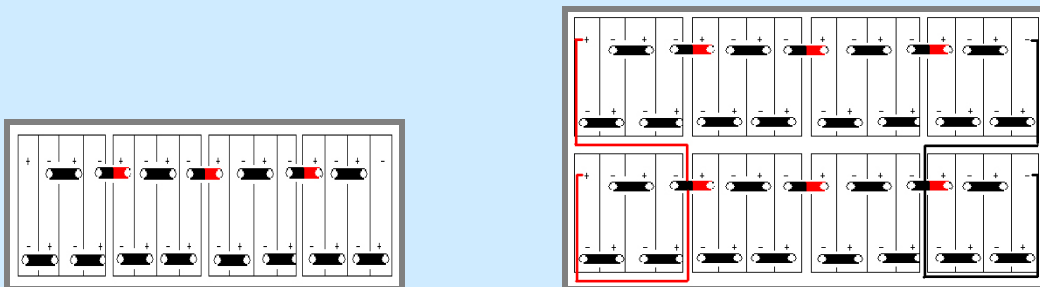

Figure 2: Connection of one row batteries (2KWH)
10. Wiring: Pull off the protection cap of the battery terminals (positive and negative) between two battery packs, use red / black short jumper cable to put them in series as shown in Figure 2. If it is a 4KWH model, connect two strings of the 2KWH battery packs in parallel (positive to positive, negative to negative terminals); Connect the DC/DC converter (11) to the end terminals of the battery pack, red to positive and black for negative. Connect the white connectors to the balancers. Connect the grey Anderson connector to the charger.
13. Bumper outlet for charger connection. Black wire: Live line (L); White wire: Null Line (N); Green wire: Ground Line(E).